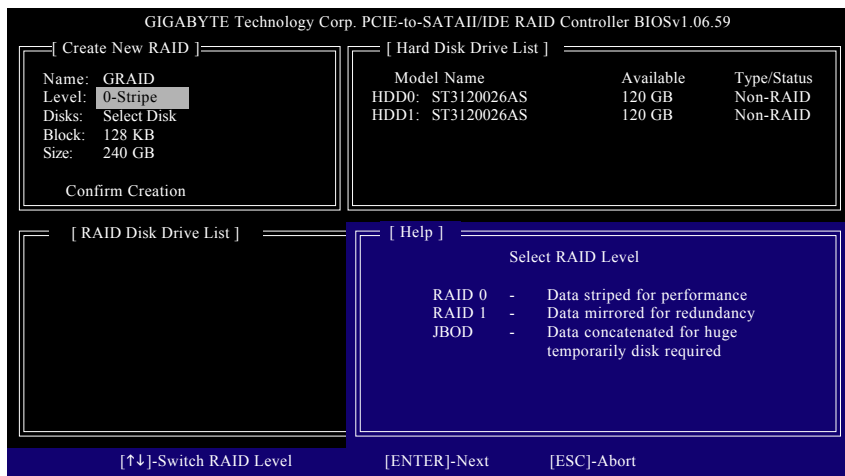

Figure 5
The **Create New RAID** block displays all the items that need to be set for creating an array (Figure 5).
- 2. Select RAID Mode:** Under the **Level** item, use up or down arrow key to select RAID 0 (Stripe), RAID 1 (Mirror), or JBOD (Figure 5). Then press <Enter> to move onto the next step.